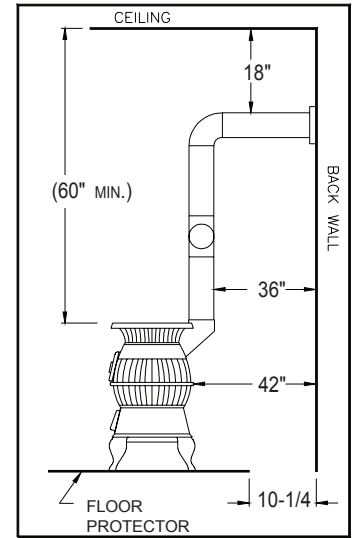

FIGURE 3
3. You must have at least 18" inches clearance between any horizontal piping and the ceiling. (Fig. 3)